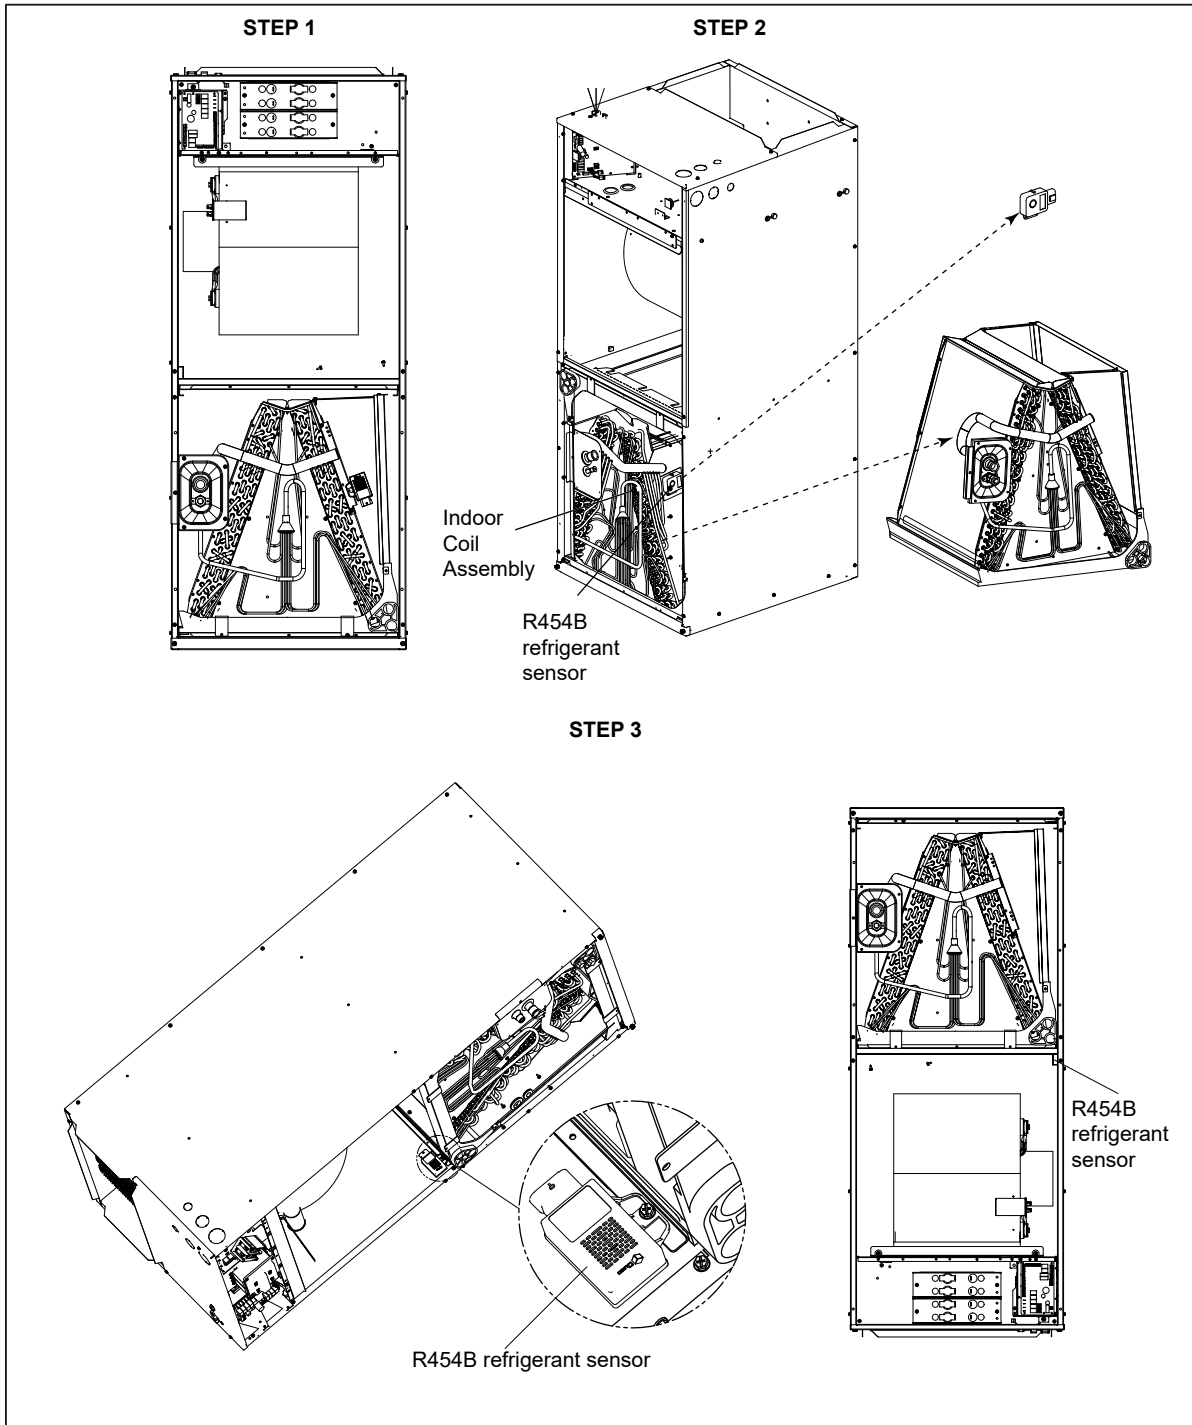

Fig.3-10 Vertical Downflow & Horizontal Left Applications Conversion
4. Reinstall the refrigerant sensor at the location shown in Fig.3-10.
A vertical upflow unit may be converted to horizontal left by removing the indoor coil assembly and the refrigerant leak detection sensor. Reinstall the indoor coil and the refrigerant sensor for left hand air supply. See Fig.3-10.
- Reinstall the indoor coil 180° from original position. Ensure the retaining channel is fully engaged with the coil rail. See Fig.3-10 and 3-11.
2. Pull out the coil with refrigerant sensor (Figure 3-10, Step 2).
3. Unscrew and remove the refrigerant sensor and housing from the evaporator coil. Then place and screw in the refrigerant sensor housing at the sensor position shown in the Figure 3-10.
4. Replace the coil in the correct orientation and secure in place. Plug the refrigerant sensor wire back to the control board(Figure 3-10, Step 3).